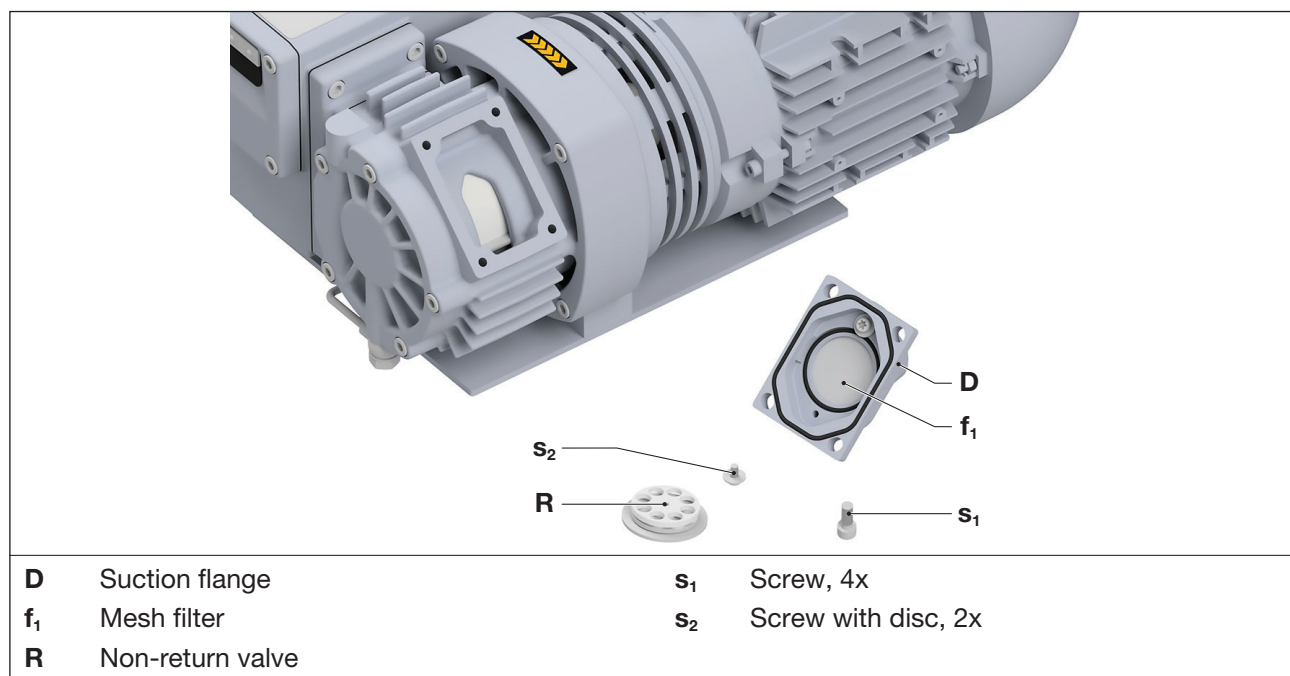

Fig. 5 Mesh filter
Depending on the pollution of the inlet medium, the mesh filter (Fig. 5/f₁) in the suction flange has to be cleaned more or less by washing or blowing off or it must be replaced.
- c) Loosen the screws (Fig. 5/s₁) on the suction flange (Fig. 5/D) and remove the suction flange.
- d) Loosen the screws with discs (Fig. 5/s₂) on the non-return valve and remove the non-return valve (Fig. 5/R) from the suction flange. If the non-return valve is dirty, it can be cleaned by blowing off.
- e) Remove the mesh filter (Fig. 5/f₁) from the suction flange and clean it.
- f) Reinsert the mesh filter (Fig. 5/f₁) and the non-return valve into the suction flange (Fig. 5/D) and secure the non-return valve with the two screws (Fig. 5/s₂). Tightening torque: 4 Nm
- g) Reassemble the suction flange to the housing and secure it with the four screws (Fig. 5/s₁). Tightening torque: 10 Nm